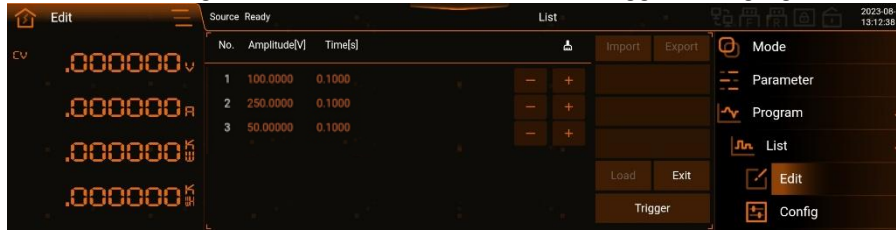

Figure 163 List Programming Example Second Figure
- 3) Click 'Load' at the bottom right corner, at this time both 'Exit' and 'Trigger' are highlighted, see Figure 163